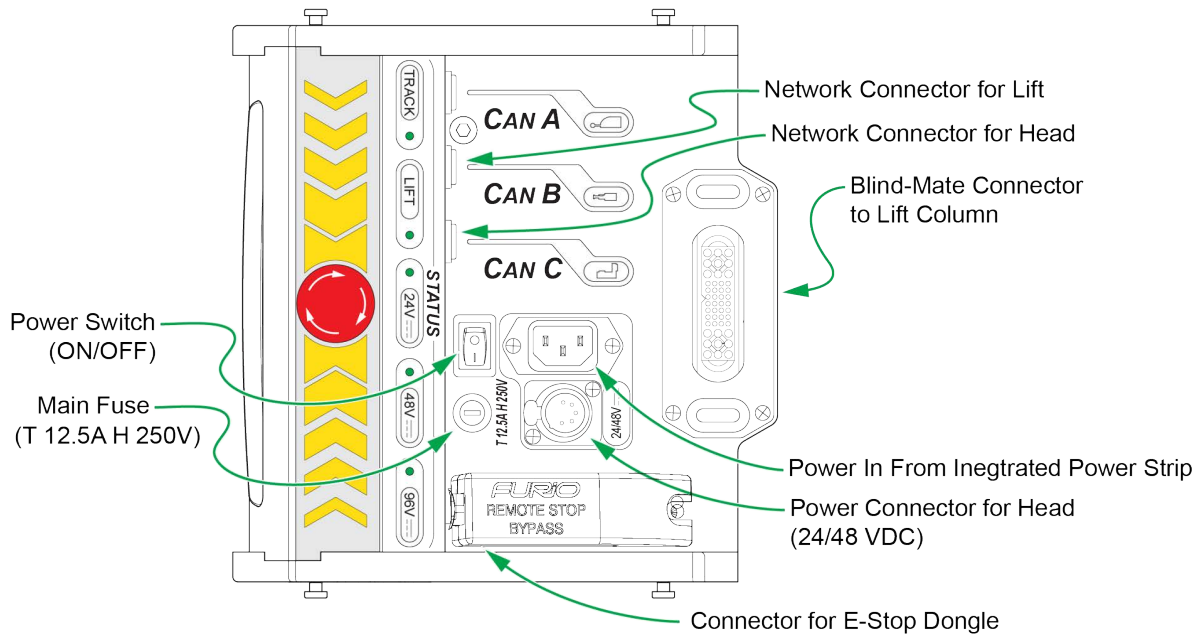

Figure 7 - BlackBird S2/SE FRU Connection Panel
The **Field Replaceable Unit (FRU)** contains all the control electronics. All network and power connections for the pedestal, lift, and head are through the FRU's connection panel (**Figure 7**).
1. Turn off the pedestal, and then disconnect the FRU's Power In cable (**Figure 7**).